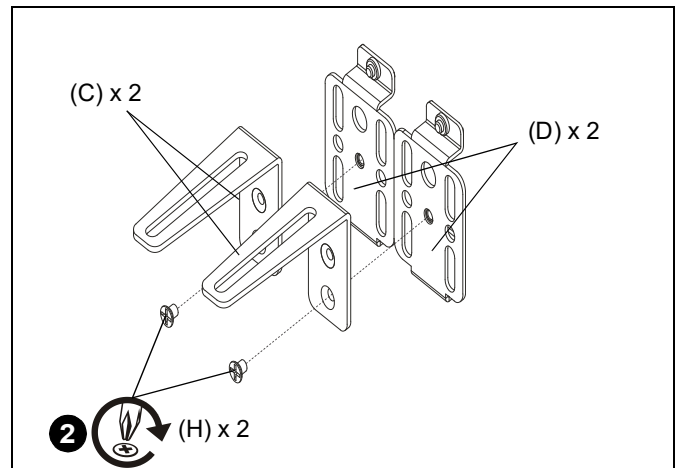

Figure 5
1. Attach soundbar to speaker interfaces (D) using #10-24 x 1/2" Phillips pan machine screws (E) or 1/4-20 x 1/2" Phillips pan machine screws (F) or hardware supplied with soundbar.
**NOTE:** If soundbar mounting holes are on bottom of soundbar, attach soundbar to adapter brackets (C).
2. (If adapter brackets are required) Use two #10-24 x 1/4" flat head Phillips screws (H) to secure adapter brackets (C) to speaker interfaces (D). (See Figure 5)